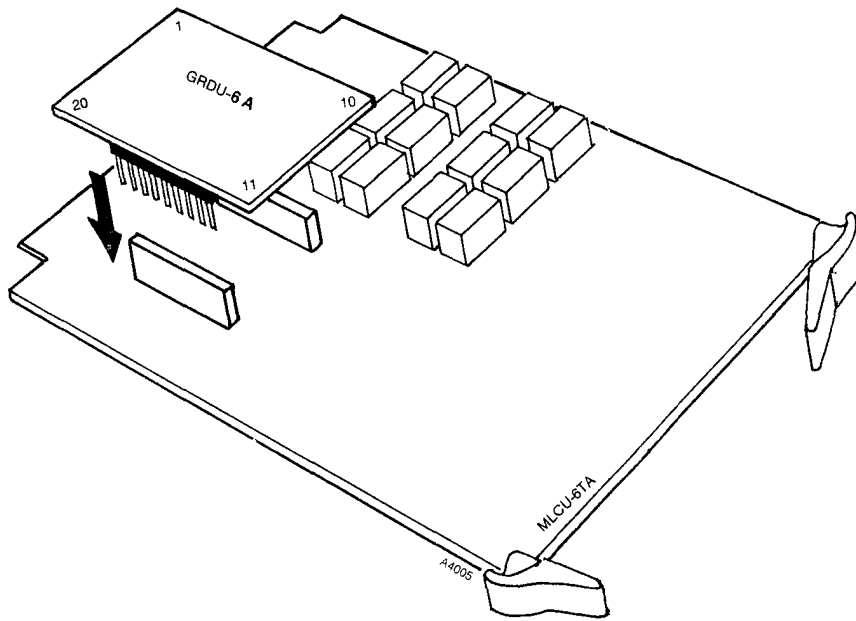

Figure 5-10 MLCU-6TA AND GRDU-6A PCBs, EK-616
5.14 The MLCU-6TA (Figure 5-10) is used for multi-line conferencing. An optional Ground Flash (GRDU-6A) PCB is mounted on the MLCU-6TA PCB and is used in systems requiring ground transfer on PBX lines. The GRDU-6A has two male connectors that are inserted into the female connectors on the MLCU-6TA.